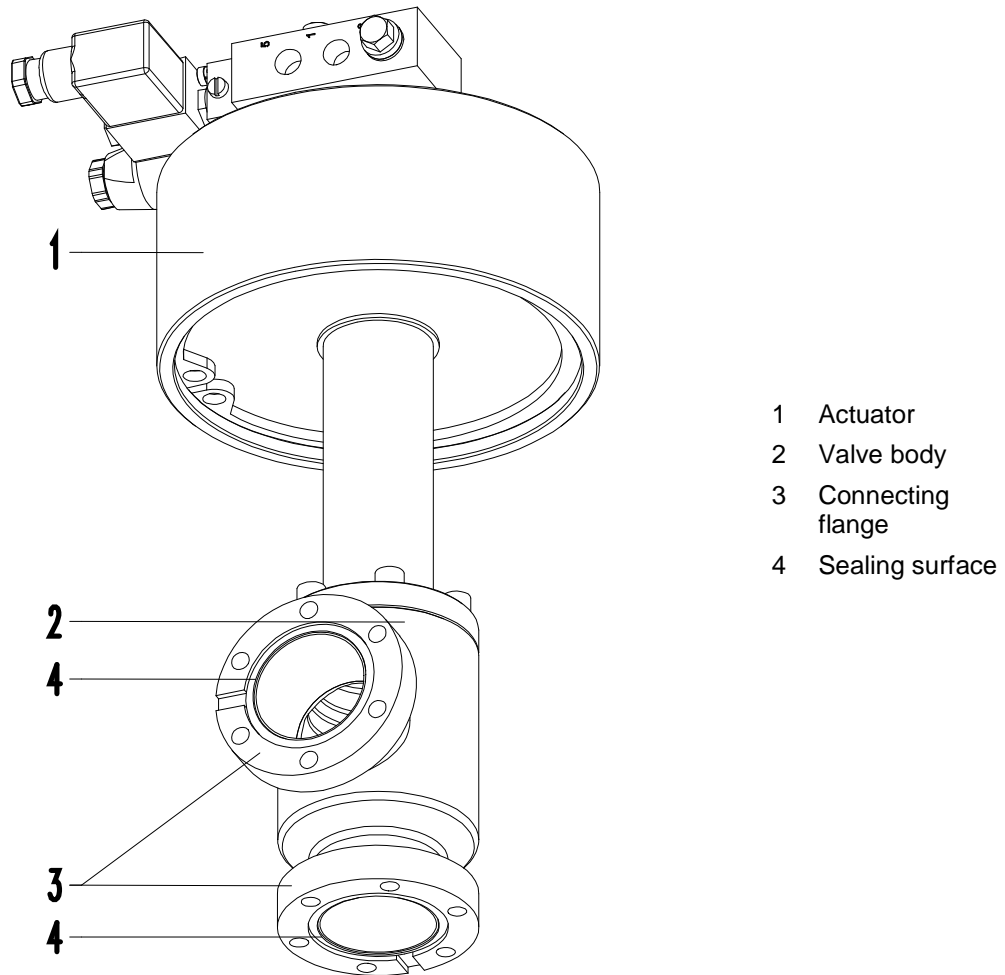

Figure 3-1
3. Clean sealing surfaces; see «Figure 3-1» on page 8, with cleanroom wiper soaked with pure alcohol (Isopropanol).